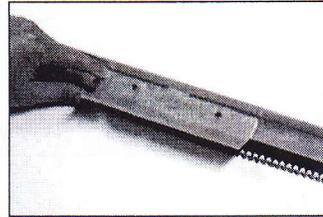

Fig 4
5. Place the adapter plate (C) on the stiffener bar (B), aligning the 2 holes of the plate (C) with the 2 center holes on the stiffener bar (B) (figure 4).